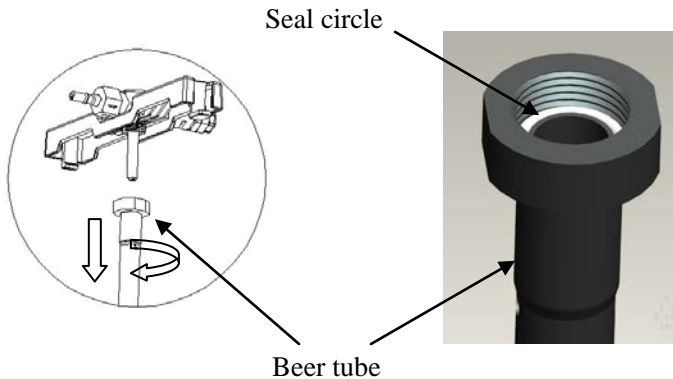

Figure 34
C. Replace the seal circle of beer tube (Show as figure 34)